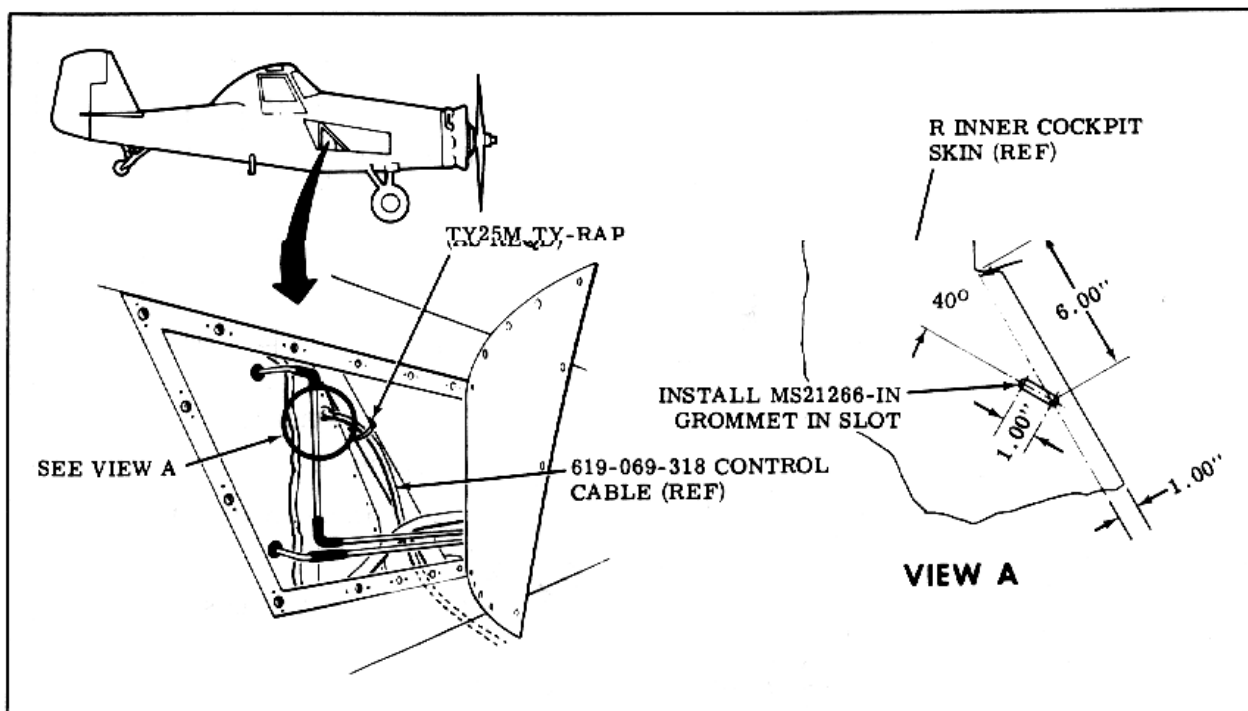

Figure 1.
- b. Remove skin as shown in Figure 1. to facilitate installation of hopper emergency shutoff valve control cable.
- f. Cut an oblong hole in right inner cockpit skin (see Figure 1.).